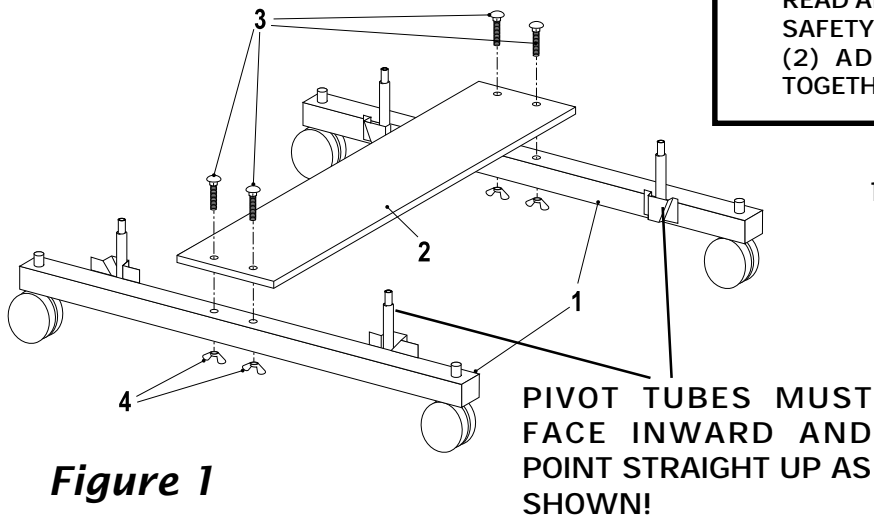

Figure 1
1. Attach wood bottom board (#2) to caster rails (#1) as shown in Figure 1. Turn caster rail as shown with pivot tubes toward inside, and attach board (#2) with four carriage bolts (#3) and four wing nuts (#4). Tighten wing nuts securely.